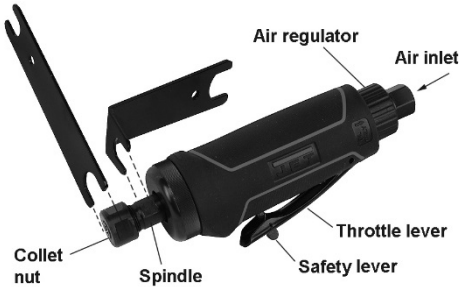

Figure 1 (JAT-404 shown)
1. Loosen collet nut using the two wrenches on the flats of the collet nut and spindle (Figure 1). Keep wrench on spindle stationary while turning wrench on collet nut.
3. Remove protective cap from air inlet (Figure 1). If an in-line oiler is not being used, add 4 or 5 drops of air tool oil (not included) in to the air inlet.